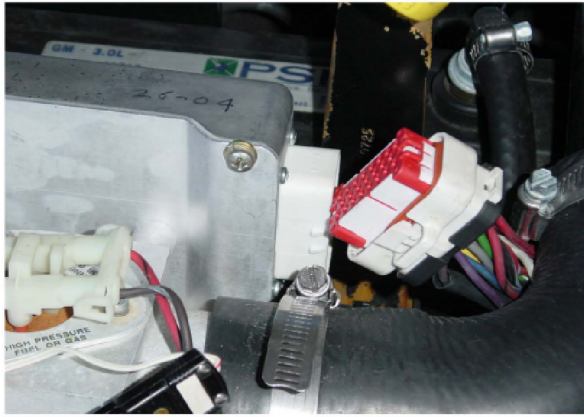

FIG. 1
1. Disconnect the white connector from the ECU. Refer to Fig. 1.
17. Plug the white connector into the ECU. The connector should easily plug into the ECU. Do not force the connector into the ECU. Refer to Fig. 1.
**NOTE: Refer to ECU Wiring Procedure for steps required to rewire the modified controller (ECU). Rewiring must be completed according to the ECU Wiring instructions. Remove the old controller and install the new controller (1) as shown in the diagram below.**